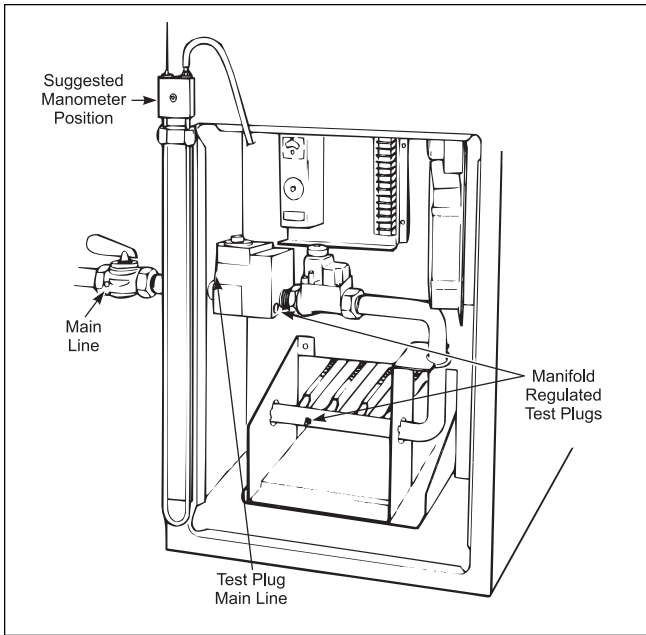

Figure 34. Gas pressure test.
1. Attach a manometer (or a dry gas pressure gauge) to heater jacket (see Figure 34).
4. Remove the 1/8 inch (3.2 mm) NPT test plug on the outlet side of the manifold, and replace it with the 1/8 inch (3.2 mm) NPT fitting from the manometer kit, (see Figure 34).